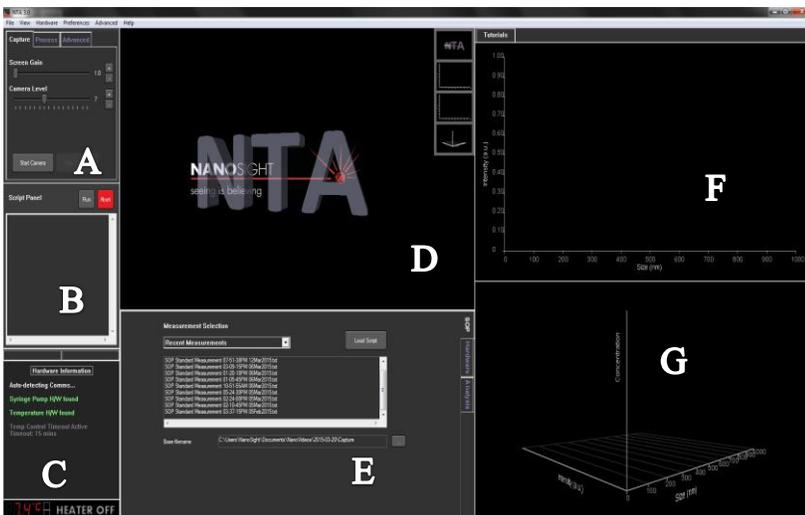

Figure 3. The NTA software main screen. Components:
- g. Open the operating software. The software home page will load (Figure 3).